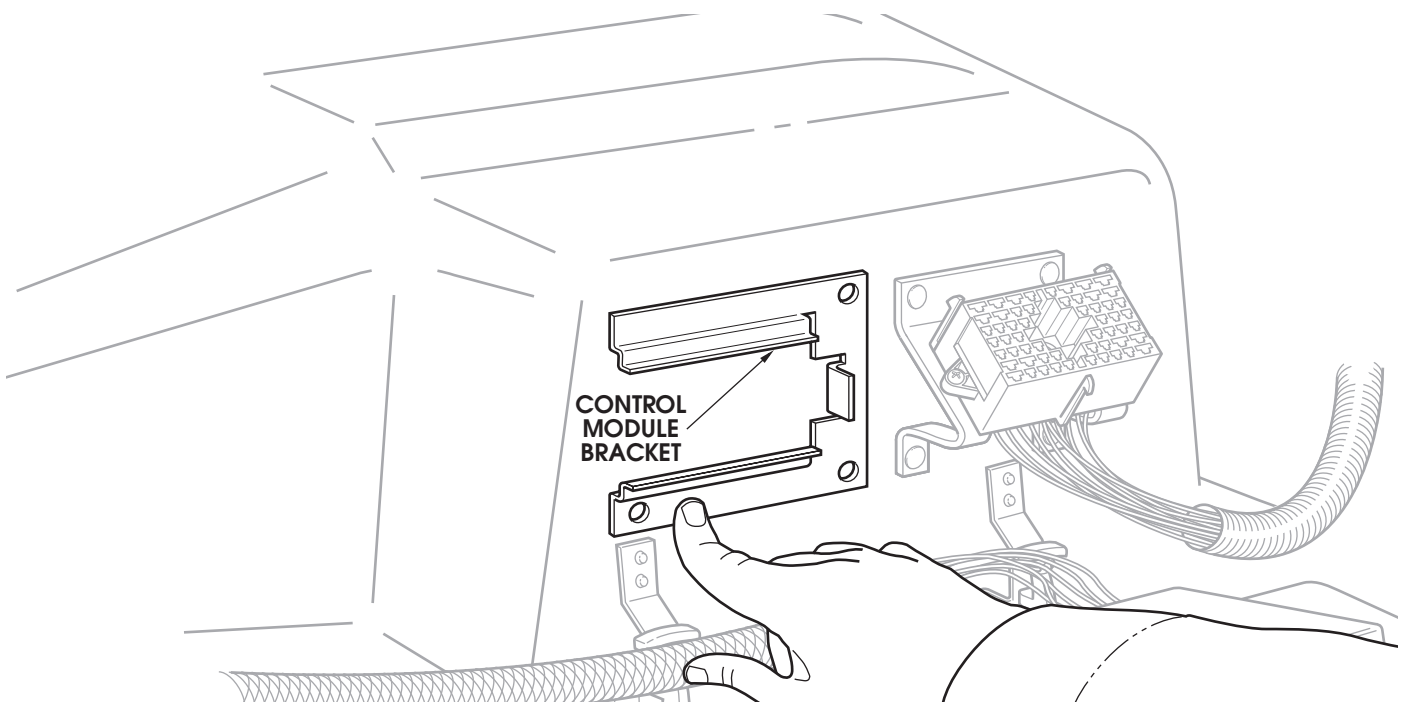

Figure 1: ELocker ELocker control module bracket mounted on the engine cover.
10. Remove the digital ratio adapter from the engine cover and install the ELocker control module bracket in it's place using the double sided tape on the bracket (See Figure 1).